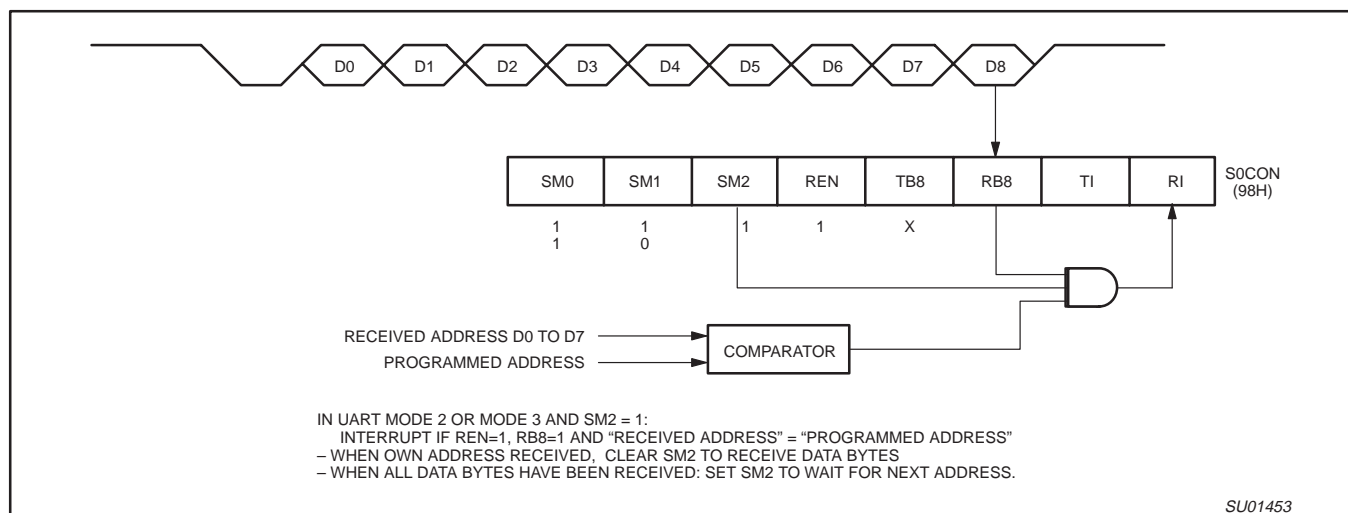

Figure 34. UART Multiprocessor Communication, Automatic Address Recognition
Automatic Address Recognition is a feature which allows the UART to recognize certain addresses in the serial bit stream by using hardware to make the comparisons. This feature saves a great deal of software overhead by eliminating the need for the software to examine every serial address which passes by the serial port. This feature is enabled by setting the SM2 bit in S0CON. In the 9-bit UART modes (mode 2 and mode 3), the Receive Interrupt flag (RI) will be automatically set when the received byte contains either the "Given" address or the "Broadcast" address. The 9-bit mode requires that the 9th information bit is a 1 to indicate that the received information is an address and not data. Automatic address recognition is shown in Figure 34.